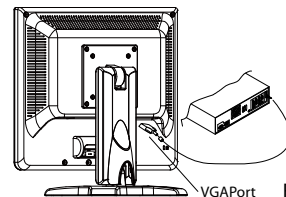

Figure 1-4
2. Connect one end of the signal cable to the LCD Monitor's VGA port. (See Fig 1-4)